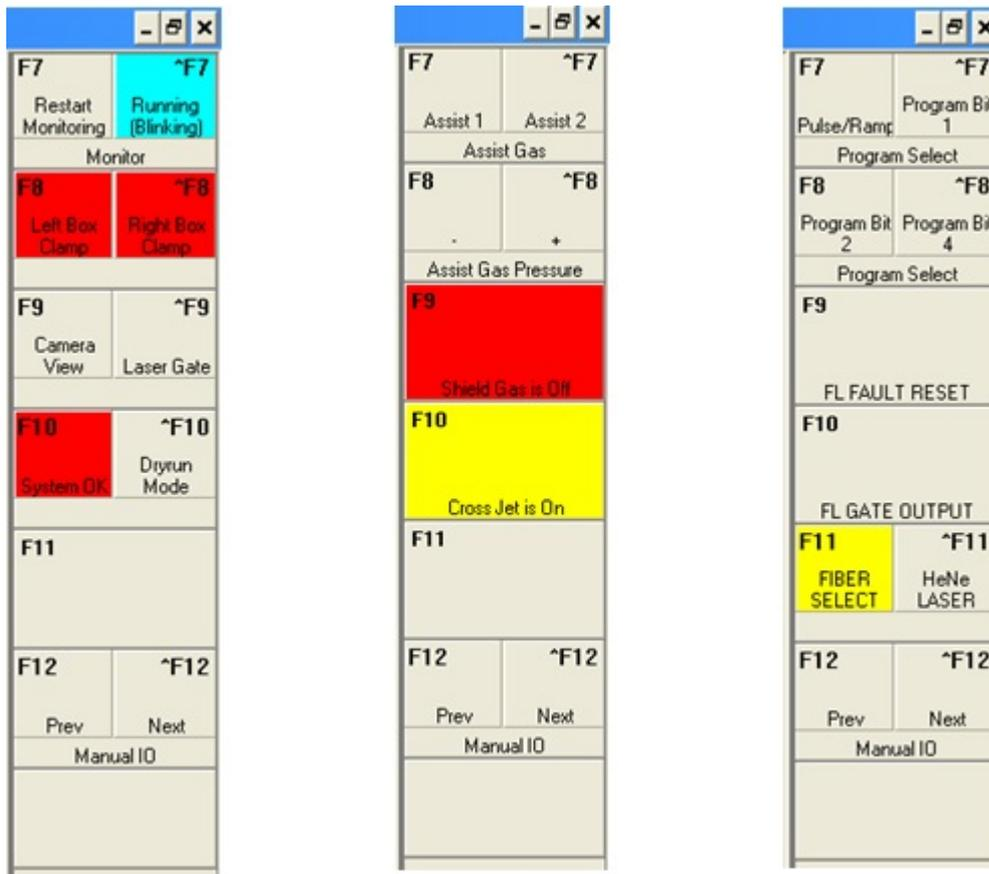

Figure 21: Additional options menus on the **F7 options menu**.
19. (Figure 21) While the NView software is still on the **RUN** page, navigate to the second options menu on the **F7 options panel** and select the **F10 System OK** button. The button will turn **green**.